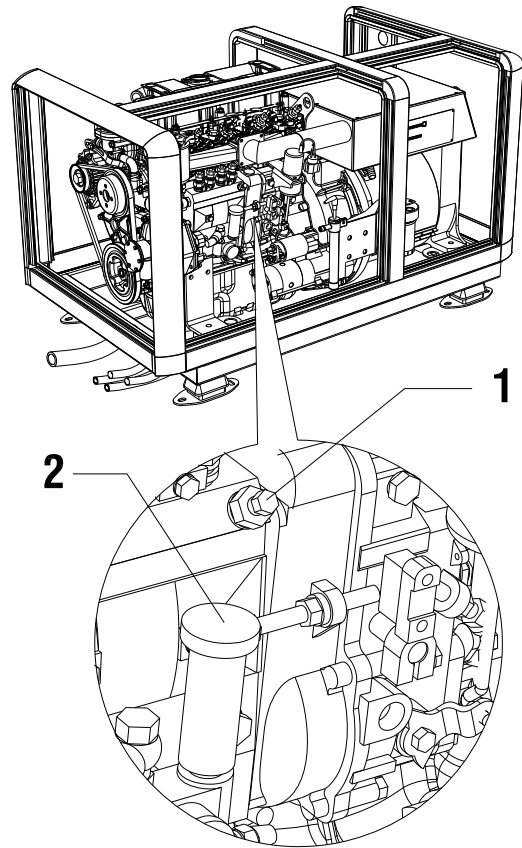

Fig. 16: Bleeding fuel lines 1 = Air bleeding screw
- 2 Loosen the air bleeding screw (1) 1,5 turns . See Fig 16.
- 3 Unlock liftpump plunger (2) (See fig 16) by turning it to the left.
- 5 Lock liftpump plunger (2) (See fig 16) by pushing it full down and turning it to the right.
- 6 Tighten the air bleeding screw (1)